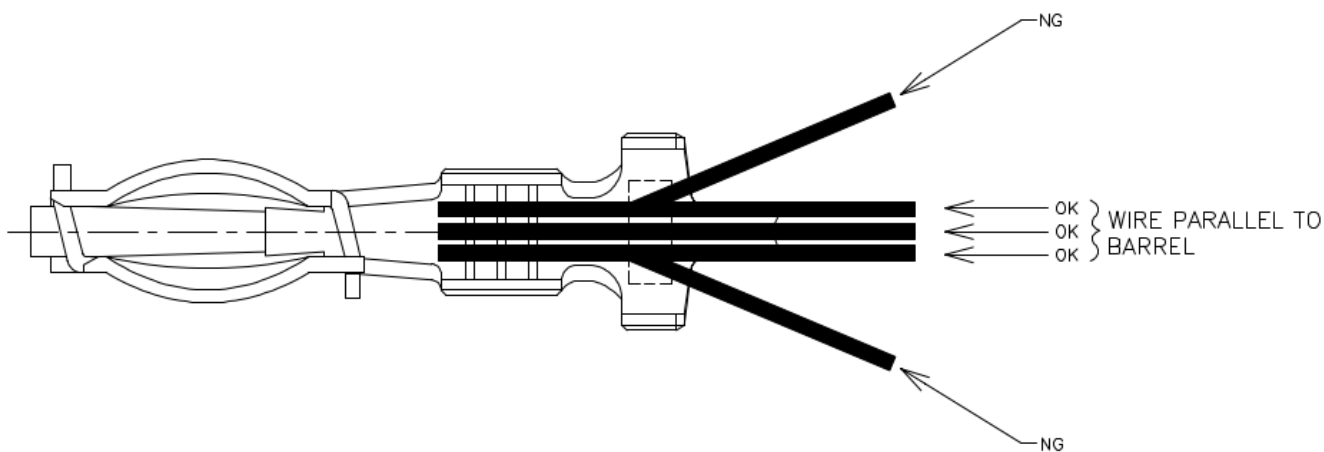

FIG. 4
(1) The Cross section area of wire barrel crimp: Include coating of magnet wire.
(2) Set the wire on condition that wire parallel barrel. (Fig.4)